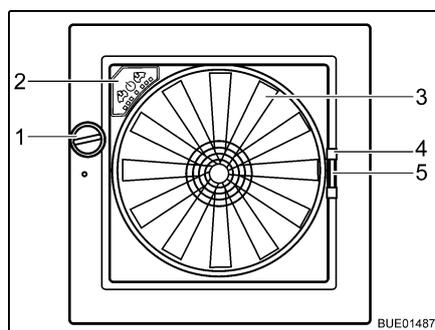

Fig. 119 Omni-Vent skylight
- Opening:** ■ Turn the knob (Fig. 119,1) until the desired opening angle is reached.
- Closing:** ■ Turn the knob (Fig. 119,1) until the skylight is fully closed.
- Closing:** ■ Using the handle (Fig. 119,4) pull the insect screen across to the other side of the frame.
- Press together the handle (Fig. 119,5) of the shade.
Fan If the skylight is open, the interior can be vented and aerated with the 6-speed fan (Fig. 119,3). The fan is operated via the operating panel (Fig. 119,2).